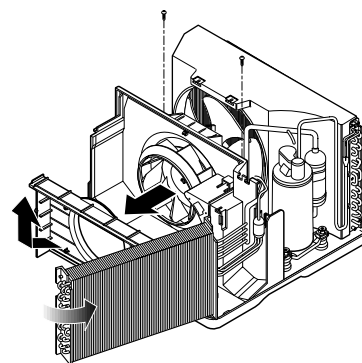

Figure 16
9. Move the evaporator forward and pulling it upward slightly. (See Figure 16)
10. Pull out the hook of orifice by pushing the tabs and remove it. (See Figure 16)